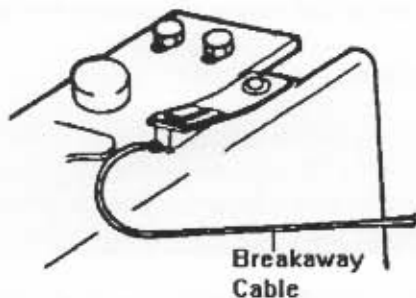

Figure P13: Breakaway Cable
8. Make sure breakaway cable is in released position with indicator bead touching or resting against cable spring stop. See Figure P13.